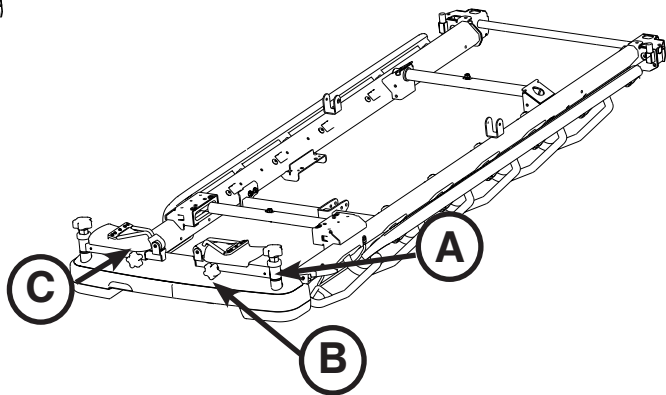

Figure 43: Foot Supports In Stored Position
To store the foot supports (see Figure 43):
1. Fully retract the foot supports using leg knob (B).
2. Fold the foot support pads (C) down toward the support bar.
3. Loosen the knee knob (A), rotate the foot supports to the position shown in the Figure 43 below.
4. Tighten to secure in place using the knee knob (A).